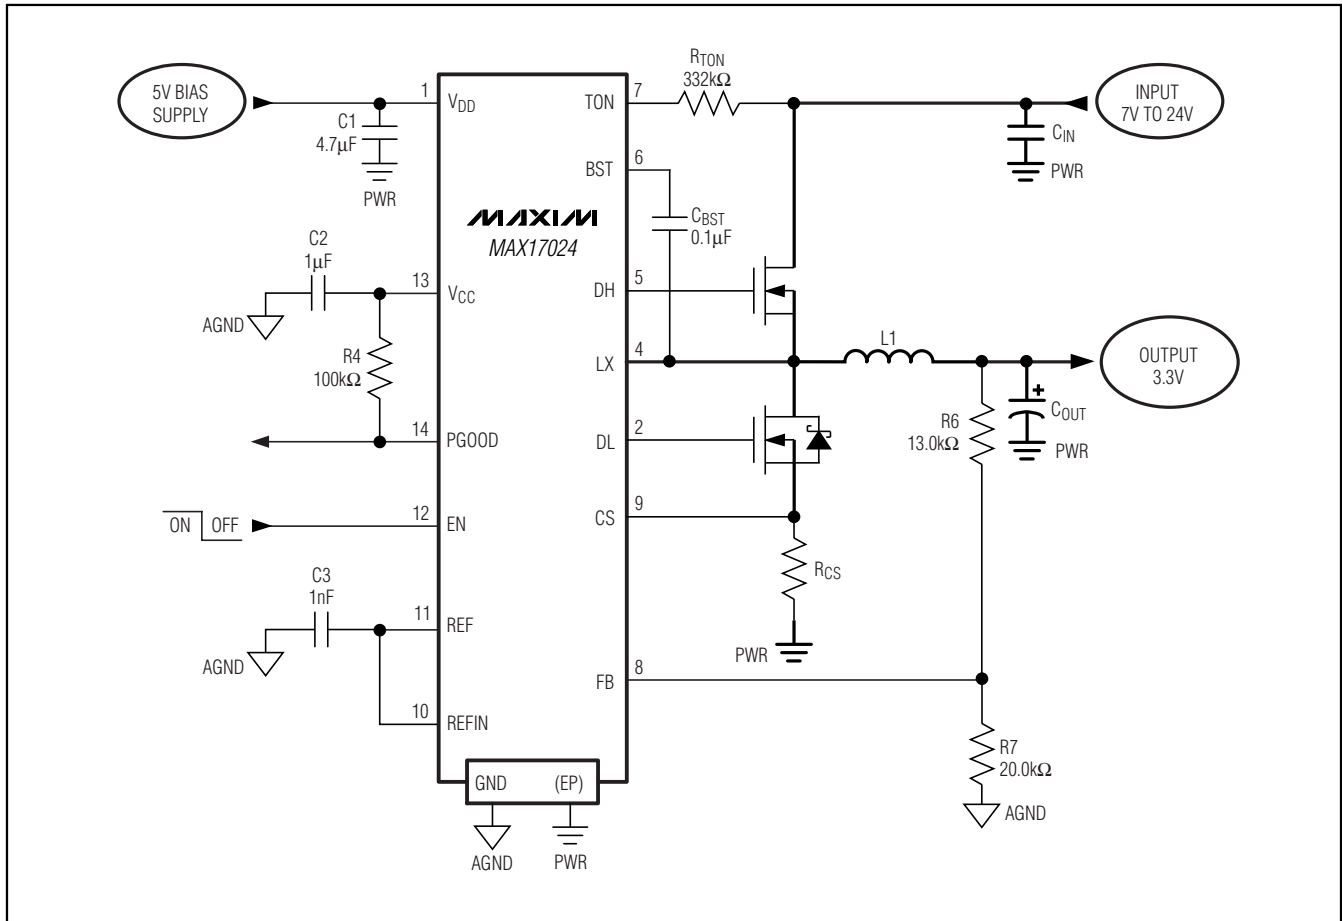

Figure 3. High Output-Voltage Application Using a Feedback Divider
Although REFIN is limited to a 0 to 2V range, the output-voltage range is unlimited since the MAX17024 utilizes a high-impedance feedback input (FB). By adding a resistive voltage-divider from the output to analog ground (Figure 3), the MAX17024 supports output voltages above 2V. However, the controller also uses FB to determine the on-time, so the voltage-divider influences the actual switching frequency, as detailed in the *On-Time One-Shot* section.